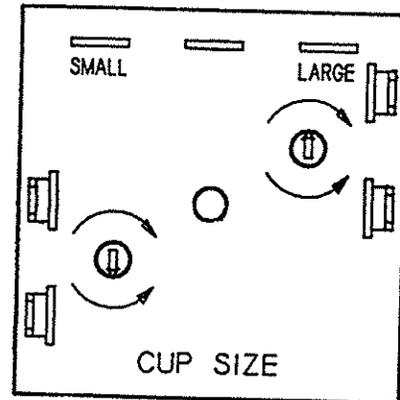

Fig. 4
2. **PORTION CONTROL ADJUSTMENT** -Adjustments in drink size are made by simply turning dials on the Universal Timer (see Fig. 4).